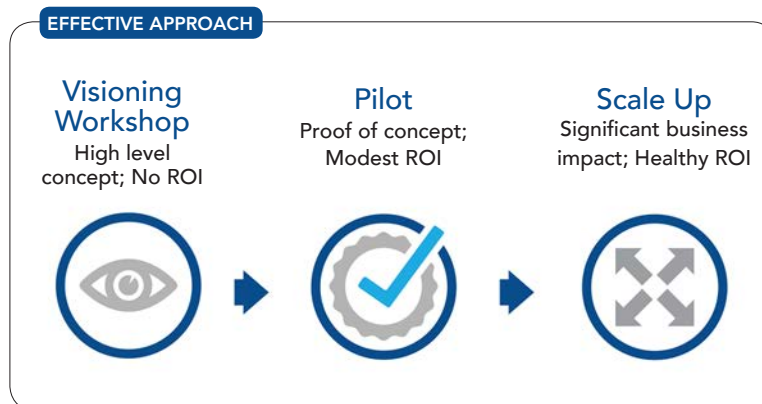

Figure 3. Developing a vision for digitalization and running a pilot with a clear business value underpin successful scaleup.
10. Plan to scale up. Mine the pilot program for ways not only to improve the processes that have been put in place but also for areas of the plant ripe for similar expansions. Use gathered ROI data to build a case for expansion of successful programs, remembering to look for opportunities everywhere (Figure 3).